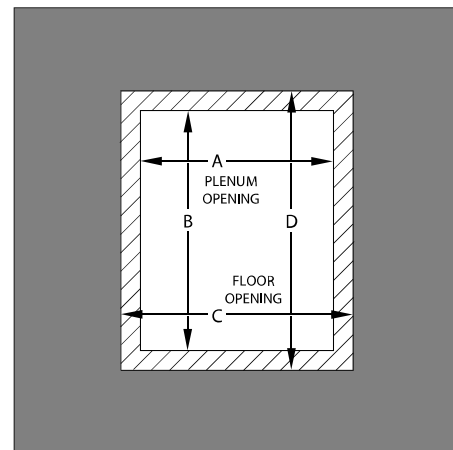

Fig. 11 – Floor and Plenum Opening Dimensions
- Construct hole in floor per Table 4 and Fig. 11.
- Construct plenum to dimensions specified in Table 4 and Fig. 11.